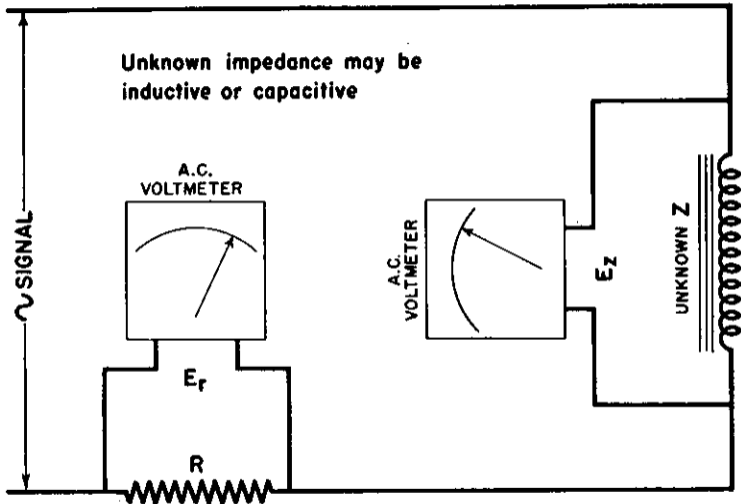

Fig. 8
**Method two—voltmeter readings and computation.** Place a resistor  $R$  in series with the unknown impedance  $Z$ . Then make a voltage reading across the resistor  $R$ , calling this ( $E_r$ ) and also across the unknown impedance  $Z^*$ , calling this ( $E_z$ ). (See Figure 8.)